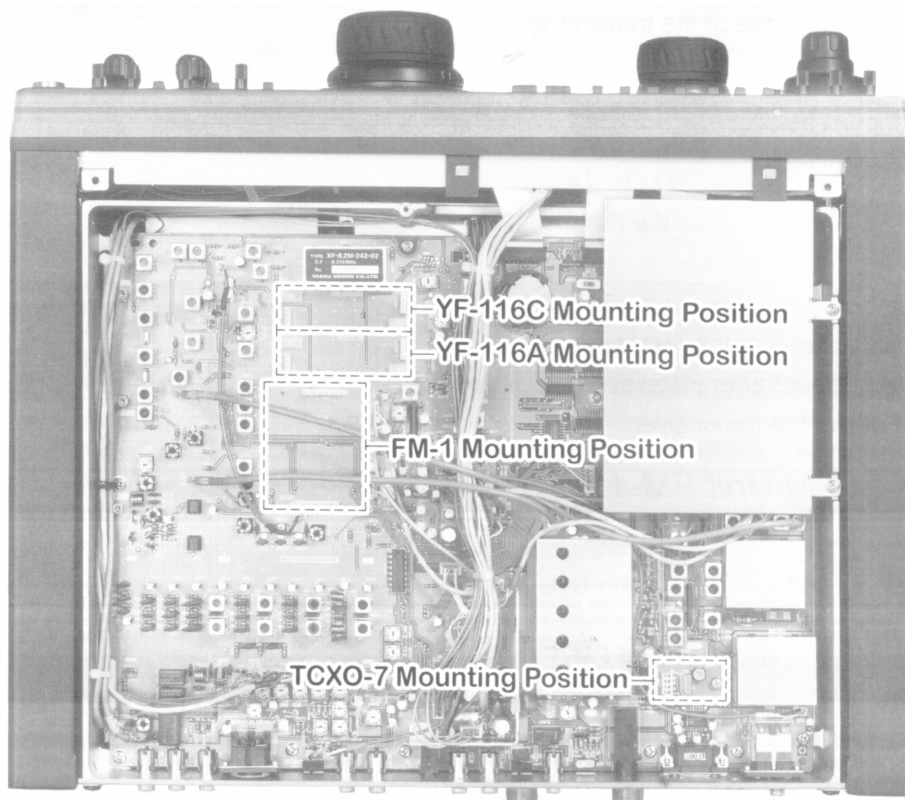

Figure 2
- ① Remove the bottom case of the transceiver (see previous page).
- ② Refer to Figure 2 on the previous page, and locate the mounting positions for the CW (**YF-116C**) and/or AM (**YF-116A**) filters on the MAIN Unit.
- ② Refer to Figure 2 on the previous page, and locate the mounting position for the **TCXO-7**, which currently is occupied by the "REF OSC UNIT."
- ② Refer to Figure 2 on the previous page, and locate the mounting positions for the **FM-1** on the MAIN Unit.